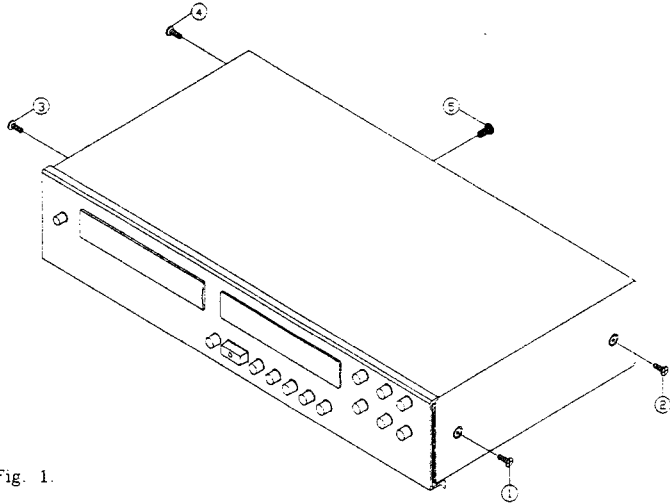

Fig. 1.
- a. ①-④ Machine screw M4.0X6.0(See Fig. 1.)
- b. ⑤ Tapping screw M3.0X8.0(See Fig. 1.)